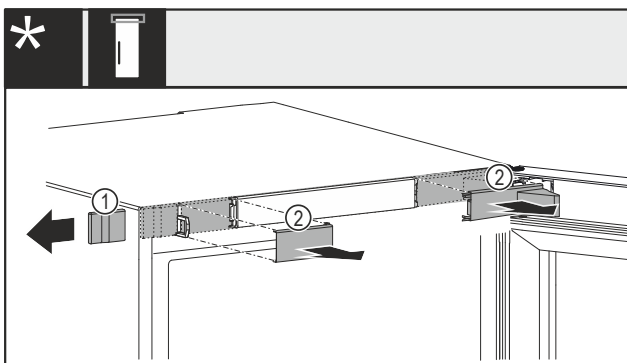

Fig. 13 With mechanical or electric lock\*
- ▶ Carefully remove the cover Fig. 13 (1) from the side.\*
- ▶ Carefully remove the covers Fig. 13 (2) towards the front.\*